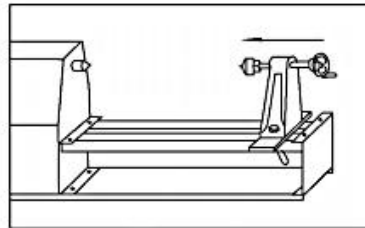

Figure 1
1. Move the tail stock assembly close to the drive center assembly.(as figure 1)